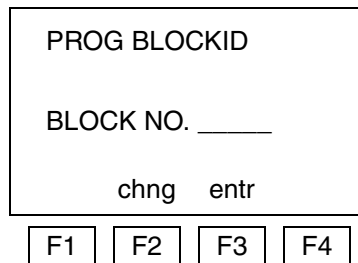

Figure 111. Block ID Configuration Function Keys
6. Press F2 (Configure Block). This calls up the function keys shown in Figure 111.